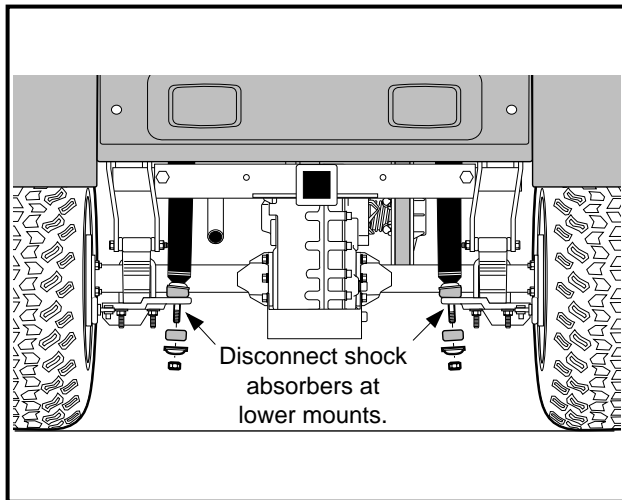
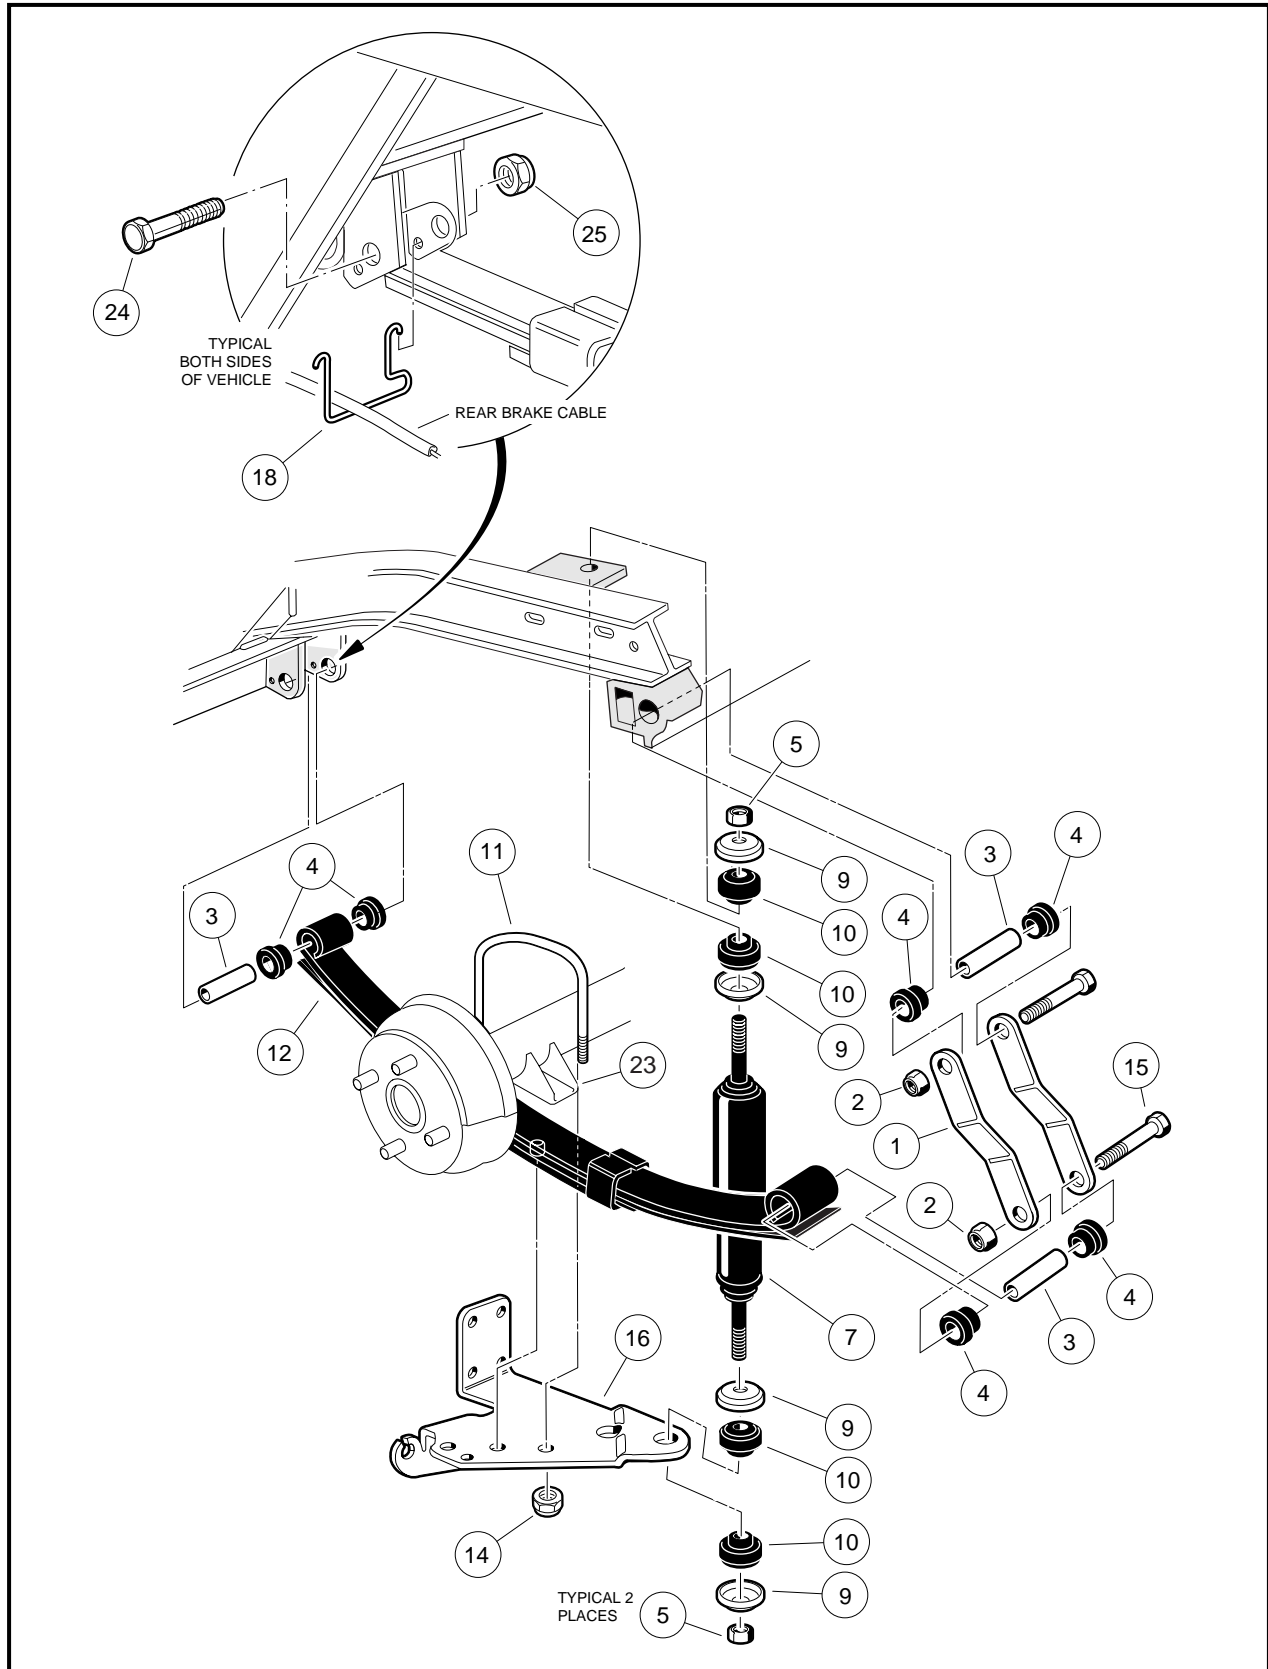

Figure 9-1 Remove Shock Absorbers
Figure 9-4 Rear Suspension
1. Check shock absorbers (7) for damage or fluid leakage around the lower housing of the shock absorber body. Replace damaged or leaking shock absorbers (**Figure 9-4, Page 9-4**).
2. To remove a shock absorber (7), remove the nut (5), cup washer and rubber bushing (9 and 10) from the upper shock absorber stem (**Figure 9-4, Page 9-4**).
3. Remove lower mounting hardware (5, 9 and 10) on shock absorber lower mount (**Figure 9-4, Page 9-4**). See also **Figure 9-1, Page 9-2**.
2. On the upper shock absorber mount, tighten nut (5) until rubber bushing (10) expands to the same diameter as the cup washer (9).
3. On the lower shock absorber mount, install mounting hardware. Tighten the nut (5) until the rubber bushing (10) expands to the same diameter as the cup washer (**Figure 9-1, Page 9-2**).
5. Remove lower nut (5), cup washer (9) and rubber bushing (10) from shock absorber (7) (**Figure 9-4, Page 9-4**).
7. Remove the locknuts (14) attaching the U-bolt (11) to the shock mount bracket (16). Do not disconnect brake cable from bracket (**Figure 9-4, Page 9-4**).
8. Raise axle with floor jack until axle saddle (23) is 1 inch (2.5 cm) above spring (**Figure 9-4, Page 9-4**).
9. Remove bolt (15) and locknut (2) attaching the leaf spring (12) to the rear shackles (1) (**Figure 9-4, Page 9-4**).
10. Allow rear of leaf spring (12) to rest on the ground and remove the bolt (24) and locknut (25) attaching the front of the spring to the vehicle frame (**Figure 9-4, Page 9-4**). Remove spring from vehicle.
11. Inspect the rubber bushings (4) and steel sleeves (3) in the spring eyes and replace them if they are worn or damaged (**Figure 9-4, Page 9-4**).
1. Install rubber bushings (4) and steel sleeves (3) into leaf spring eyes if bushings were removed (**Figure 9-4, Page 9-4**).
2. Place front of leaf spring (12) into vehicle frame and insert bolt (24) through frame and leaf spring eye. Install locknut (25) and tighten to 15 ft-lb (20.3 N·m) (**Figure 9-4, Page 9-4**).
3. Align the other end of leaf spring with the holes in the spring shackles (1). Insert bolt (15) through leaf spring eye and shackles. Install locknut (2) and tighten to 15 ft-lb (20.3 N·m). Lower transaxle onto leaf spring (12) (**Figure 9-4, Page 9-4**).
- *When placing transaxle on spring, be sure to position locating bolt on the spring in the locating hole in the transaxle saddle (23) (**Figure 9-4, Page 9-4**).*
4. Install shock mount bracket (16) onto locating bolt at bottom center of leaf spring (**Figure 9-4, Page 9-4**). **See preceding CAUTION.**
5. Install U-bolt (11) and locknuts (14). Tighten U-bolt to 25 ft-lb (34 N·m) (**Figure 9-4, Page 9-4**).